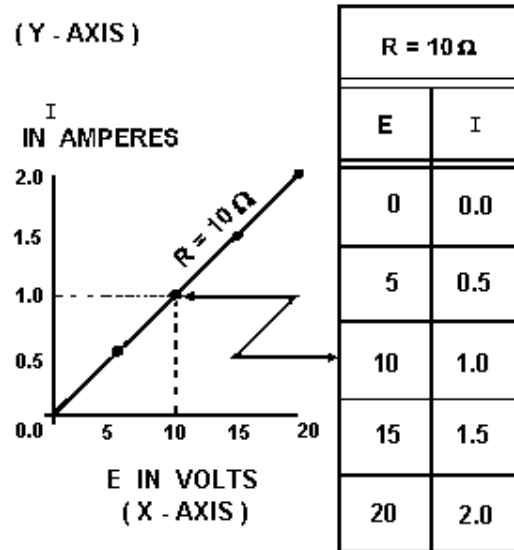

Figure 3-7.— Volt-ampere characteristic.
Figure 3-7 shows the graph and a table of values. This table shows  $R$  held constant at 10 ohms as  $E$  is varied from 0 to 20 volts in 5-volt steps. Through the use of Ohm's law, you can calculate the value of current for each value of voltage shown in the table. When the table is complete, the information it contains can be used to construct the graph shown in figure 3-7. For example, when the voltage applied to the 10-ohm resistor is 10 volts, the current is 1 ampere. These values of current and voltage determine a point on the graph. When all five points have been plotted, a smooth curve is drawn through the points.
*Q7. Using the graph in figure 3-7, what is the approximate value of current when the voltage is 12.5 volts?*